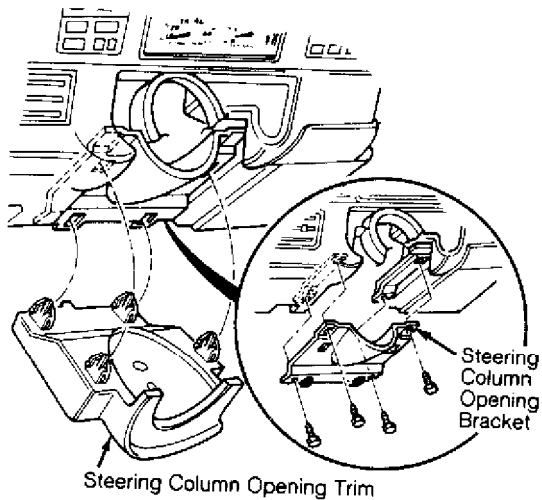

Fig. 17: Removing Steering Column Opening Trim & Bracket
1) Remove left sound insulator from left lower instrument panel, underneath steering column. Remove steering column opening trim by pulling downward away from slots in steering column opening bracket. See Fig. 17.